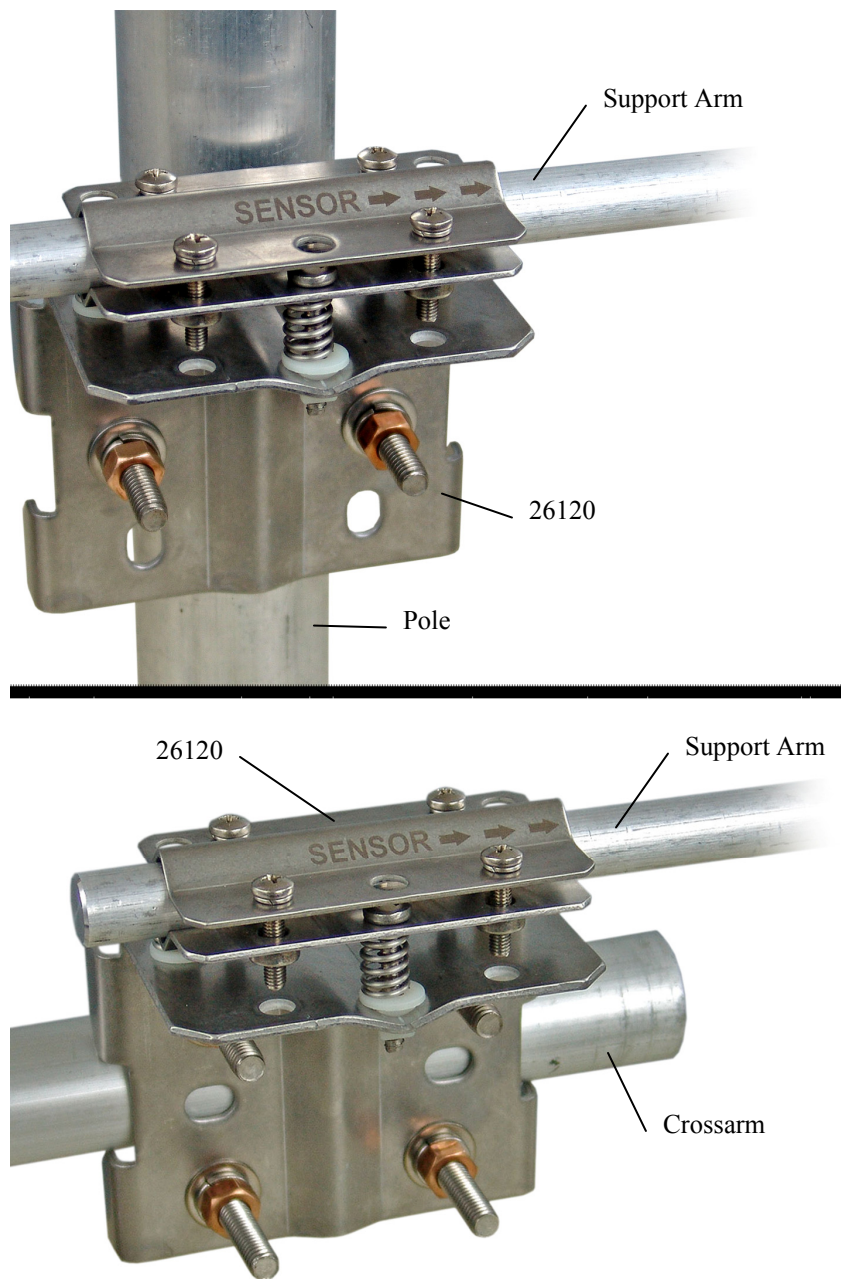

FIGURE 6. Mounting the NR-LITE2 onto a pole (top) and crossarm (bottom) via the 26120 Mounting Kit.
1. Attach the 26120 mounting bracket to the vertical mounting pipe, or CM200-series crossarm using the u-bolt provided (see Figure 6).
2. Insert the sensor's support arm into the mounting block of the mounting bracket kit. Make sure the sensor points in the direction of the arrows that appear after the word "SENSOR" on top of the bracket (see Figure 6). Perform a coarse leveling of the sensor using the sensor's bubble level. Tighten the four screws on top of the mounting bracket to properly secure the support arm so that it does not rotate.